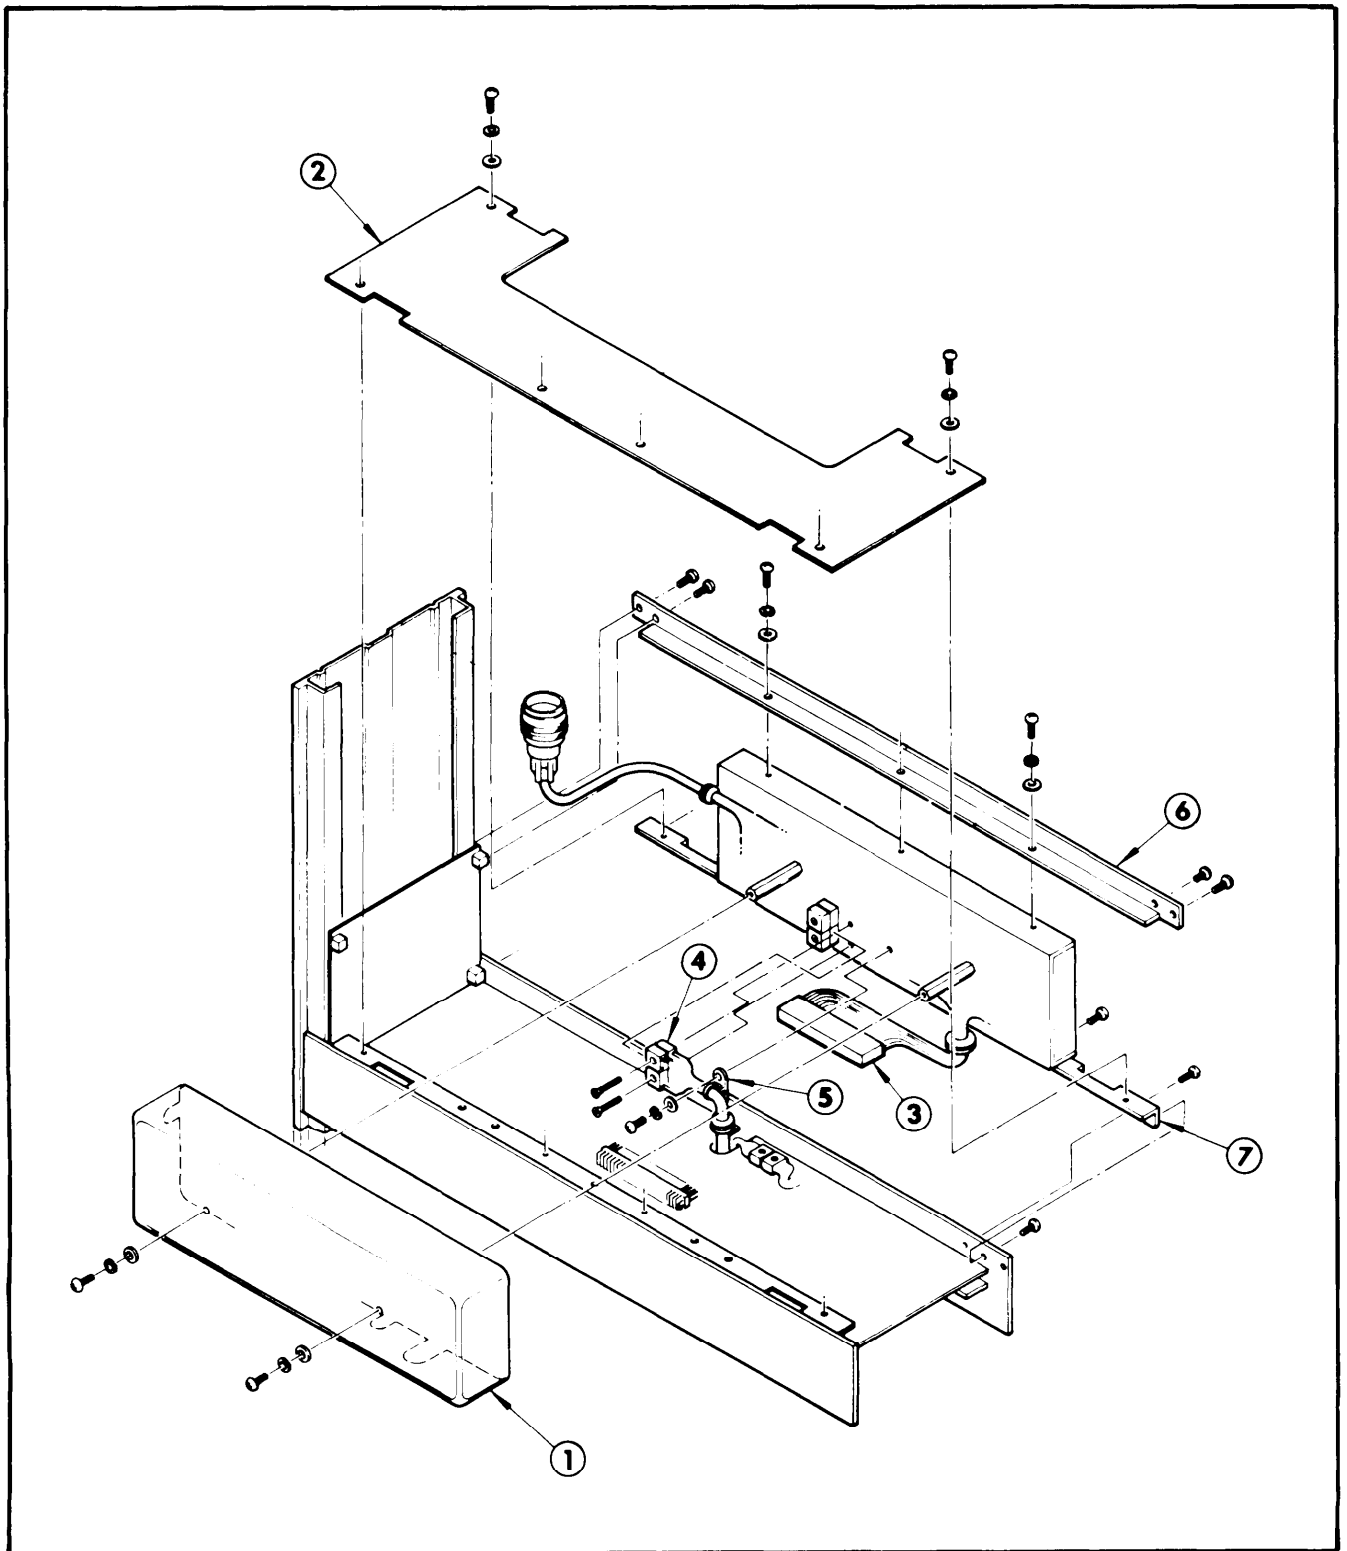

Figure 5-4. Connector Panel Assembly
5. Remove 2 attaching screws, lock washers and flat washers, to remove the connector assembly cover (1). (See Figure 5-4, Connector Panel Assembly, for assembly location and attaching hardware.)
6. Remove 6 attaching screws, lock washers and flat washers, to remove the Mother Board cover (2).
7. Remove connector J7 (3) from Mother Board.
8. Remove 2 screws from connectors J9, J11, J12, and J13 (4) and disconnect from connector panel assembly. Remove cable clamp (5) screw, lock washer, and flat washer.
9. Remove 7 attaching screws to remove the connector assembly rear bracket (6).
1. Install the connector panel assembly using 6 attaching screws along the top side of the connector panel assembly front bracket (7). (See Figure 5-4, Connector Panel Assembly and Figure FO-16 for attaching hardware.)
2. Install the rear bracket (6) using 7 attaching screws.
3. Install connectors J9, J11, J12, and J13 using 2 screws (4). Install cable clamp using one screw (5).
4. Install connector J7 (3) on Mother Board,
5. Install Mother Board cover (2) using 6 attaching screws.
6. Install connector assembly cover (1) using 2 attaching screws.